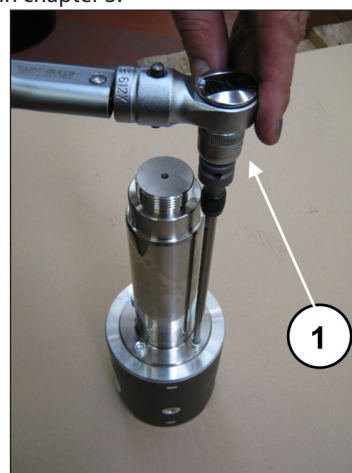

Fig. 50
Lock the piston guide in a vice with the aid of a special tool and calibrate the screws with a torque wrench (pos. ①, Fig. 50) as indicated in chapter 3.